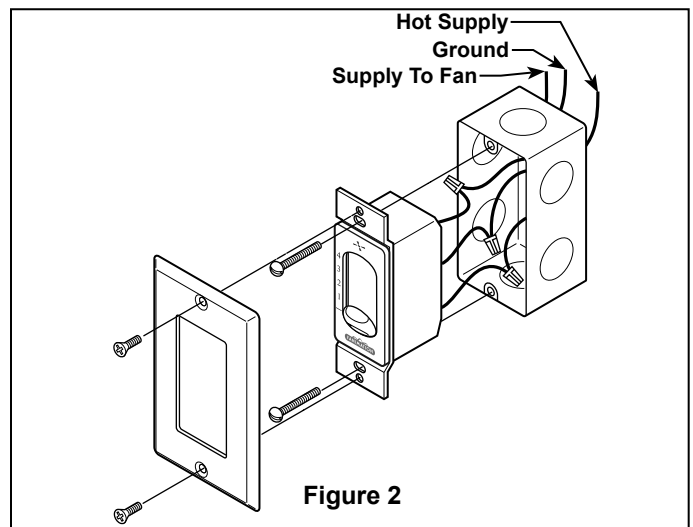

Figure 2
6. While pulling up on the hanger ball, securely tighten the two setscrews with nuts in the downrod support. Slide the Motor Coupling Cover down on top of the motor housing. (Figures 2 & 3)
1. Securely attach the hanger bracket to the outlet box using the outlet box screws and washers supplied with the outlet box (Figure 2).
NOTE: Outlet box screws pass through slotted holes of the hanger bracket (Figure 2).
3. Carefully lift the fan and seat the downrod/hanger ball assembly on the hanger bracket that was just attached to the outlet box (Figure 3). Be sure the groove in the ball is lined up with tab on the hanger bracket (Figure 2).
3. Securely fasten the Counterweight with two screws and lock washers provided. (Figures 2)
2. Securely fasten the two blades with washer-head screws with fiber washers. Do not over-tighten. (Figure 2)